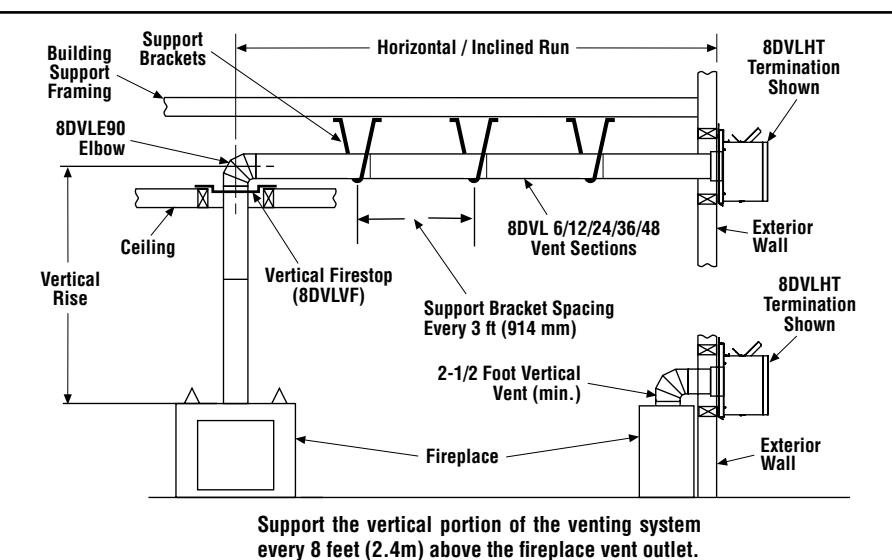

Figure 26—Typical Horizontal Vent Installation
G. Continue installation of horizontal/inclined sections—Continue with the installation of the straight vent sections in horizontal/inclined run as described in **Step C**. Install wall support straps every 3 ft (914 mm) along horizontal/inclined vent runs using conventional plumber's tape. **See Page 19, Figure 26. It is very important that the horizontal/inclined run be maintained in a straight (no dips), slightly elevated plane.** The recommended incline is approximately 1/4" per foot (20 mm per meter) horizontal, in a direction away from the fireplace. The rise per foot run ratios that are smaller are acceptable all the way down to at or near level. Use a carpenter's level to measure from a constant surface and adjust the wall support straps as necessary.
See **Figures 26–31** and their associated Horizontal Ventables that illustrate the various horizontal venting configurations that are possible for use with these appliances. **8" DV Lock** pipe applications are shown in these Figures. A Horizontal Vent table summarizes each system's minimum and maximum vertical and horizontal length values that can be used to design and install the vent components in a variety of applications.
See Figure 26, It is very important that the horizontal/inclined run be maintained in a straight (no dips), slightly elevated plane. The recommended incline is approximately 1/4" per foot (20 mm per meter) horizontal, in a direction away from the fireplace. The rise per foot run ratios that are smaller are acceptable all the way down to at or near level.